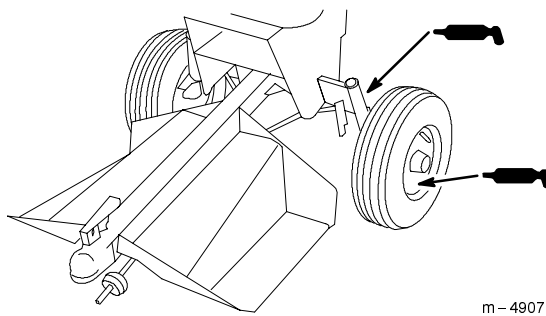
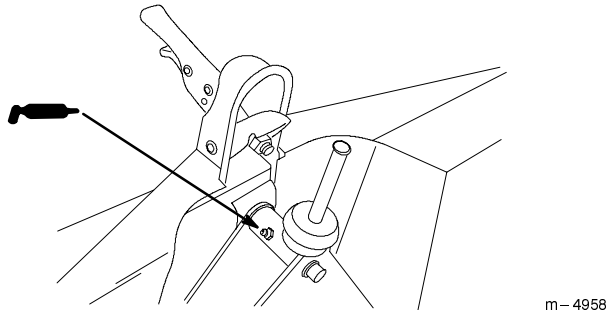

Figure 7
Figure 8
The lubrication points are spindles (2) and wheels (2) (Fig. 7) and steering pivot (Fig. 8). Lubricate each fitting with 2-3 pumps of No. 2 Lithium Base Grease.